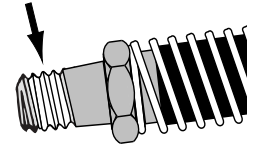

Figure 4
**NOTE:** Use 1½ wraps of teflon tape, leaving the first thread bare to prevent tape from shedding into the hydraulic system and causing damage. See Figure 4.